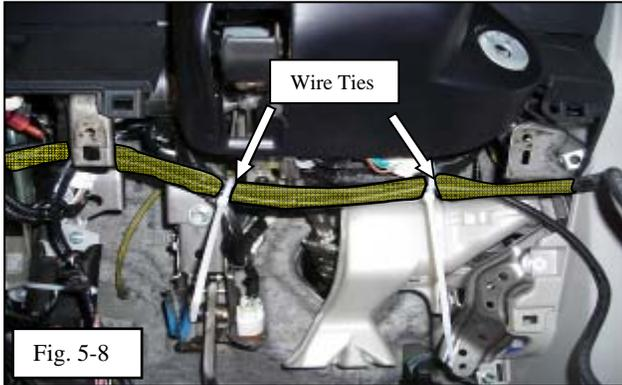

Fig. 5-8
- (1) The Switch connector should be located on the inner portion of the OE harness, toward the center of the vehicle.
- (2) The first wire tie is secured in front of the switch connector.
- (3) The second and third wire tie should secure the fuse in place.
(m) Route the Main harness and switch harness underneath the steering column area and secure to the OE harness with two (2) wire ties as shown. (Fig. 5-8)